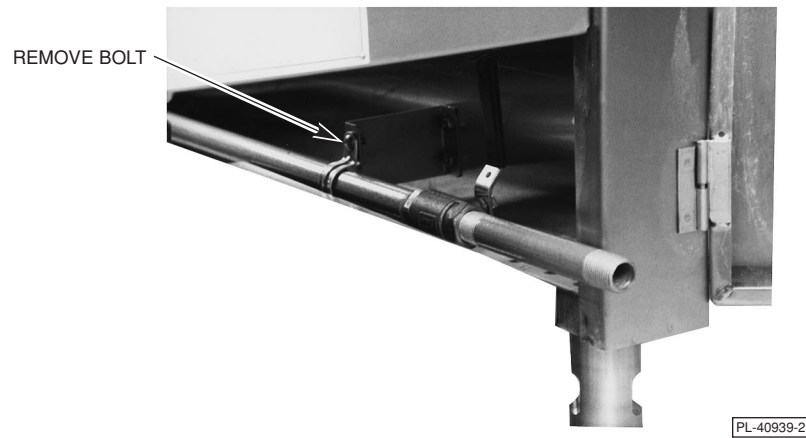

Fig. 22
4. Remove bolt from exhaust tank drain line clamp (Fig. 22).